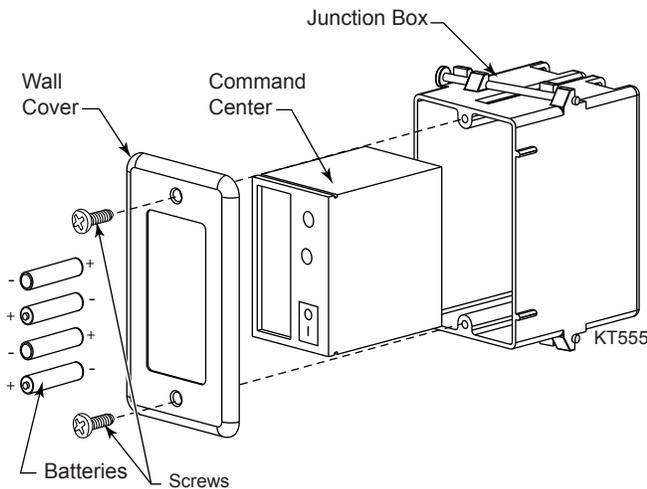

**Figure 38 -
3. The junction box cover has a factory installed “romex” style strain relief connector. After connecting the wires, route the wire leads through this connector. Refer to the wiring diagram in *Figure 38*.